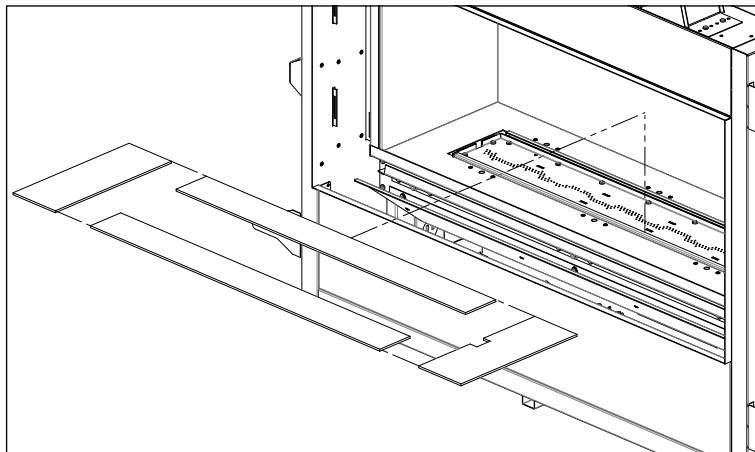

Figure 72: Burner Bezel Placement
2. Place the bezels directly onto the burner platform as shown in Figure 72. No fasteners are required.